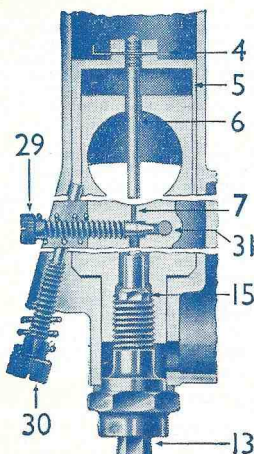

Fig. 4.
The taper needle position in relation to the throttle opening can be set according to the mixture required by fixing it to the throttle valve with the jet needle clip in a certain groove (see figure 4 above), thus either raising or lowering it. Raising the needle enriches the mixture and lowering it weakens the mixture at throttle openings from quarter to three-quarters open (see figure 5, page 7). The needles are marked with the letters B, C, or D. B type are fitted in the 375 Carburetter, C type in the 376 Carburetter, and D type in the 389 Carburetter. The needles in some cases are marked with a number in addition to a letter.
(a) This fig. 4 is three diagrammatic sections of the carburetter to show the throttle adjusting screw (30), and the pilot air adjusting screw (29).